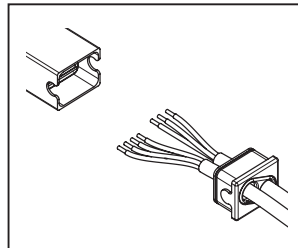

Figure 4: Motor cable and power supply cable
4. Strip the motor cable and the power supply cable about 3 cm and then the single wires approx. 6 mm (Figure 4).